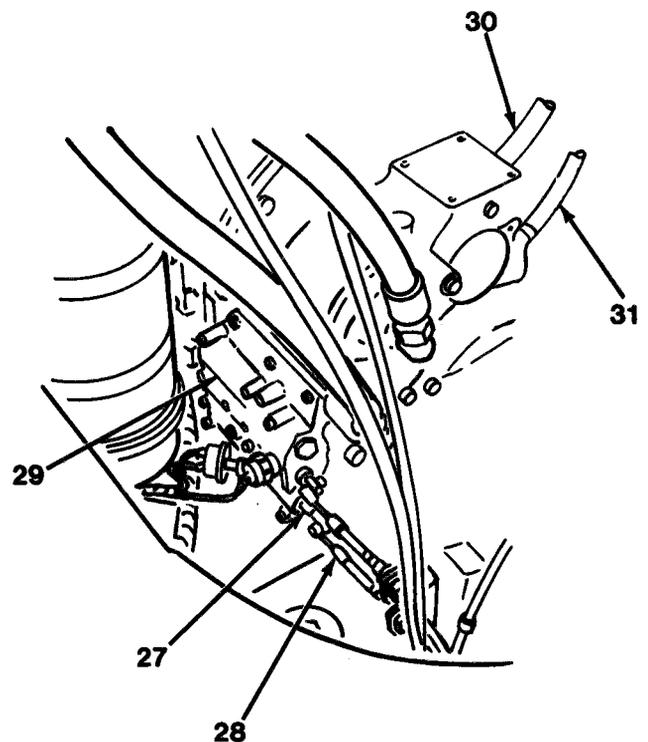

Figure 18-3
8. Disconnect hoses (6) and (7) from charge pump on the top right-hand side of transmission. Secure hoses out of the way for removal.
9. Disconnect hoses (20), (21) and (22) from main hydraulic pump (23). Remove hoses (24) and (25) from ground driven steering pump (26) on the transmission (refer to pages 13-44 and 13-37).
10. Remove two cotter pins (27) to disconnect two control cables (28) from transmission control valve (29). Loosen two jam nuts on each cable (28) and remove cables from mounting bracket. Remove two oil coder hoses (30) and (31, Figure 18-3) from the left side of transmission.